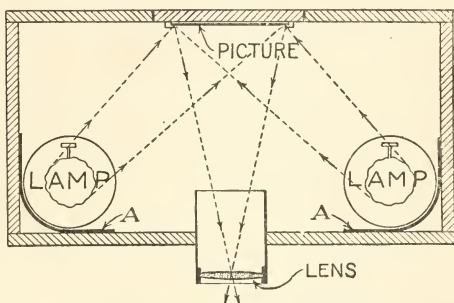

FIG. 341. — Plan of Reflectoscope.
Figures 341 and 342 show
**The Interior Arrangement** of the reflectoscope. Place the lamps in the corners of the box, next to the front, and tack in back of them the pieces of tin for reflectors (*A*, Figs. 341 and 342). Bend the reflectors to the curve shown.